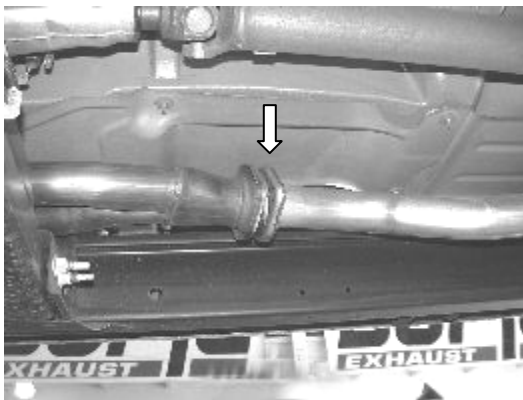

Figure 1
2. Unbolt flange shown in figure 1 just after catalytic converters and place hardware to the side for use during the installation of your new exhaust system.